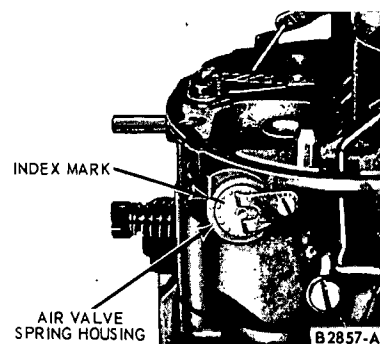

FIG. 13—Secondary Throttle Air
If the spring housing (Fig. 13) has been moved or maladjusted, adjust the spring tension as follows:
3. Block the throttle about half-open so the fast idle cam does not contact the fast idle adjustment screw, then insert the bent end of the wire gauge between the lower edge of the piston slot and the upper edge of the right hand slot in the choke housing (Figs. 13, 14 and 15).